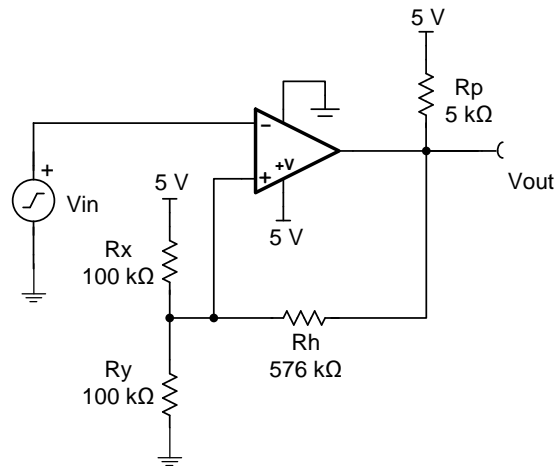

Figure 20. Comparator Schematic with Hysteresis
**Figure 20** illustrates hysteresis on a comparator. Resistor Rh sets the hysteresis level. An open-collector output stage requires a pullup resistor (Rp). The pullup resistor creates a voltage divider at the comparator output that introduces an error when the output is at logic high. This error can be minimized if  $R_h > 100R_p$ .